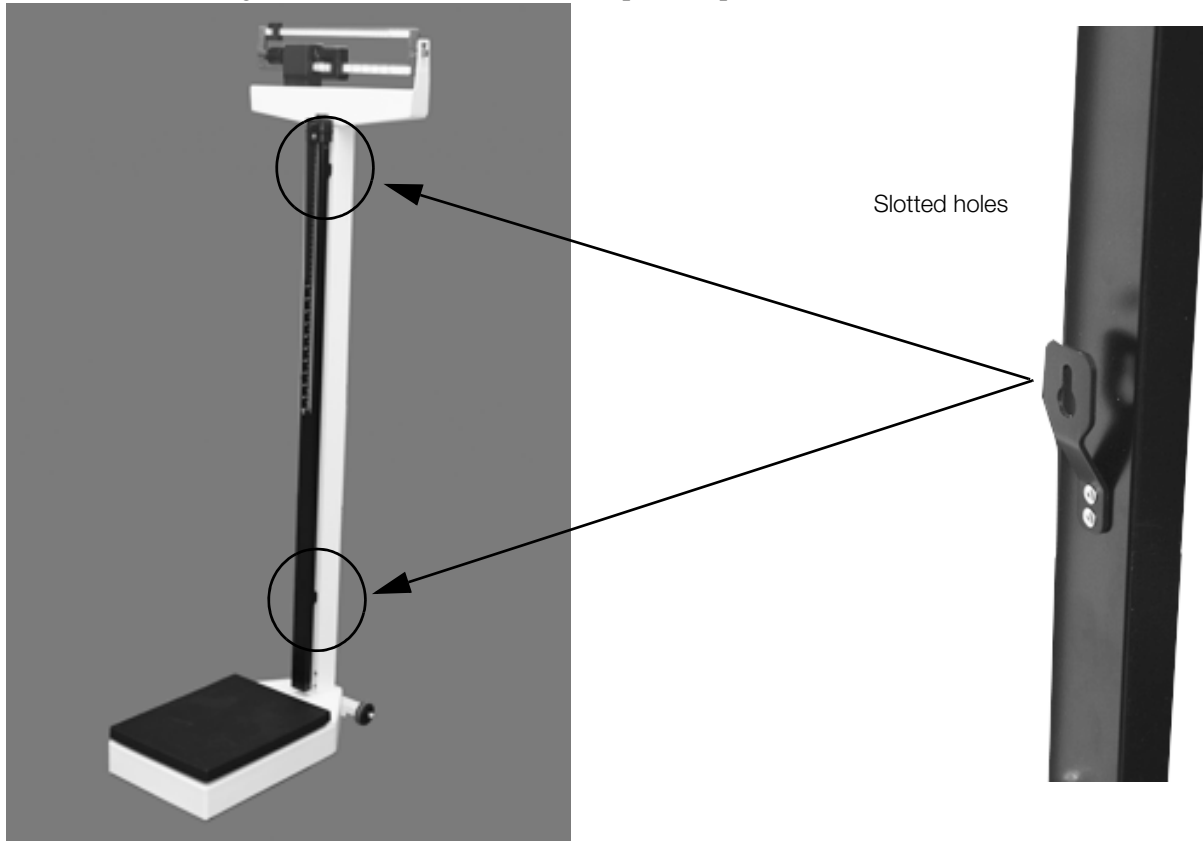

Figure 2-8. Attach the Slotted Screw Location onto the Pillar Bolt Location
1. Insert the back side slotted holes of the height rod into the two bolts on the front side of the pillar as shown in Figure 2-8. One is located at the top of the pillar and the other towards the bottom of the pillar.